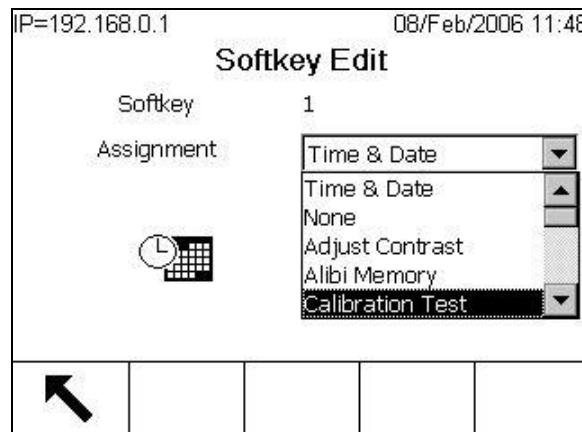

Figure 3-91: Softkey Edit Setup Screen
**Edit** Changes the softkey in the selected position to another softkey or to none, which leaves the softkey position blank. Editing a blank position does not move the position of following softkeys. Figure 3-91 shows the Softkey Edit screen with the Assignment dropdown list in focus.